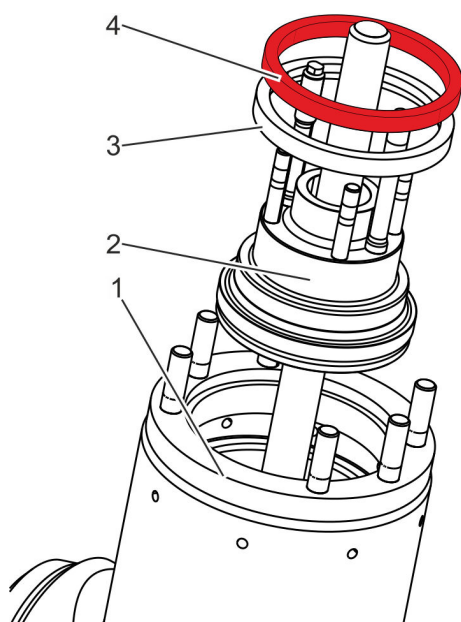

Fig. 31: Inserting cover
With a suitable hoist, insert the cover (Fig. 31/2) into the body (Fig. 31/1).
17. Mount the new gasket ring (Fig. 31/3).
18. Place the support ring (Fig. 31/4) on the gasket ring (Fig. 31/3).